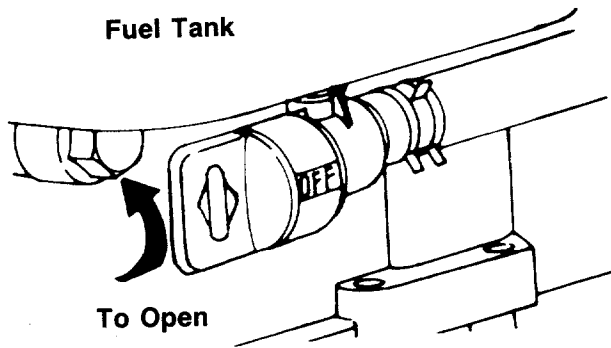
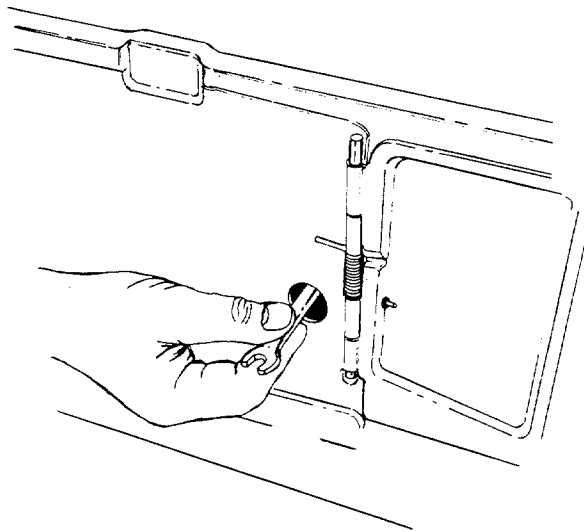

FIGURE 20.
FIGURE 21.
5. The fuel shut-off valve is located beneath the fuel tank. An access hole is provided in the catcher panel. The fuel shut-off valve should be in the open position. See figure 20. Open fuel shut-off valve using a wrench if it is closed. See figure 21.